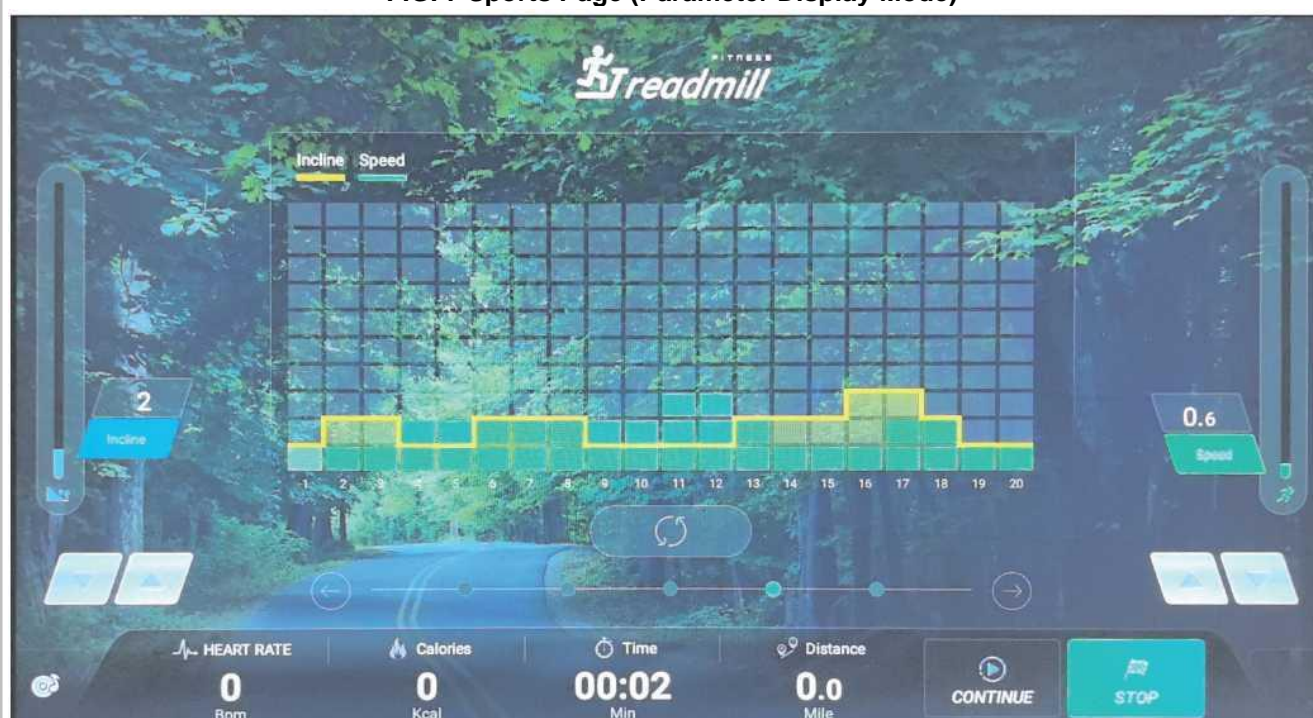

FIG. 8 Motion Page (Slope Speed Display Mode)
- 4) Speed and slope display mode -- show the change of speed and slope in sections according to time, as shown in FIG. 8;